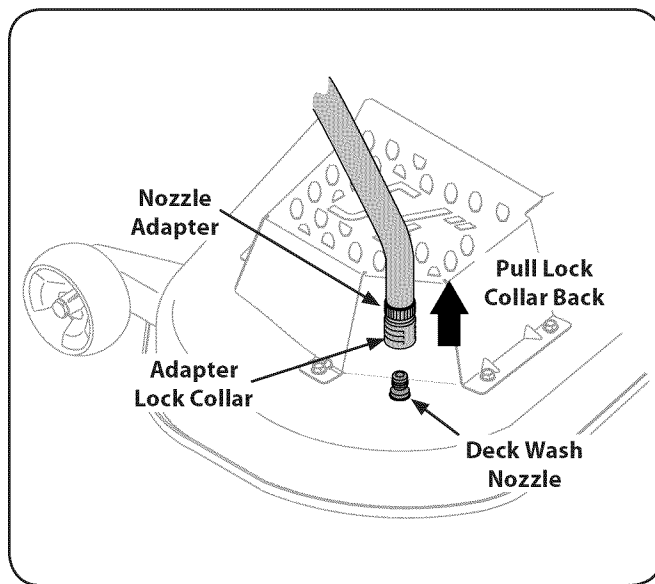

Figure 6-4
3. Pull back the lock collar of the nozzle adapter and push the adapter onto one of the deck wash nozzles at either end of the mower deck. Release the lock collar to lock the adapter on the nozzle. See Fig. 6-4.